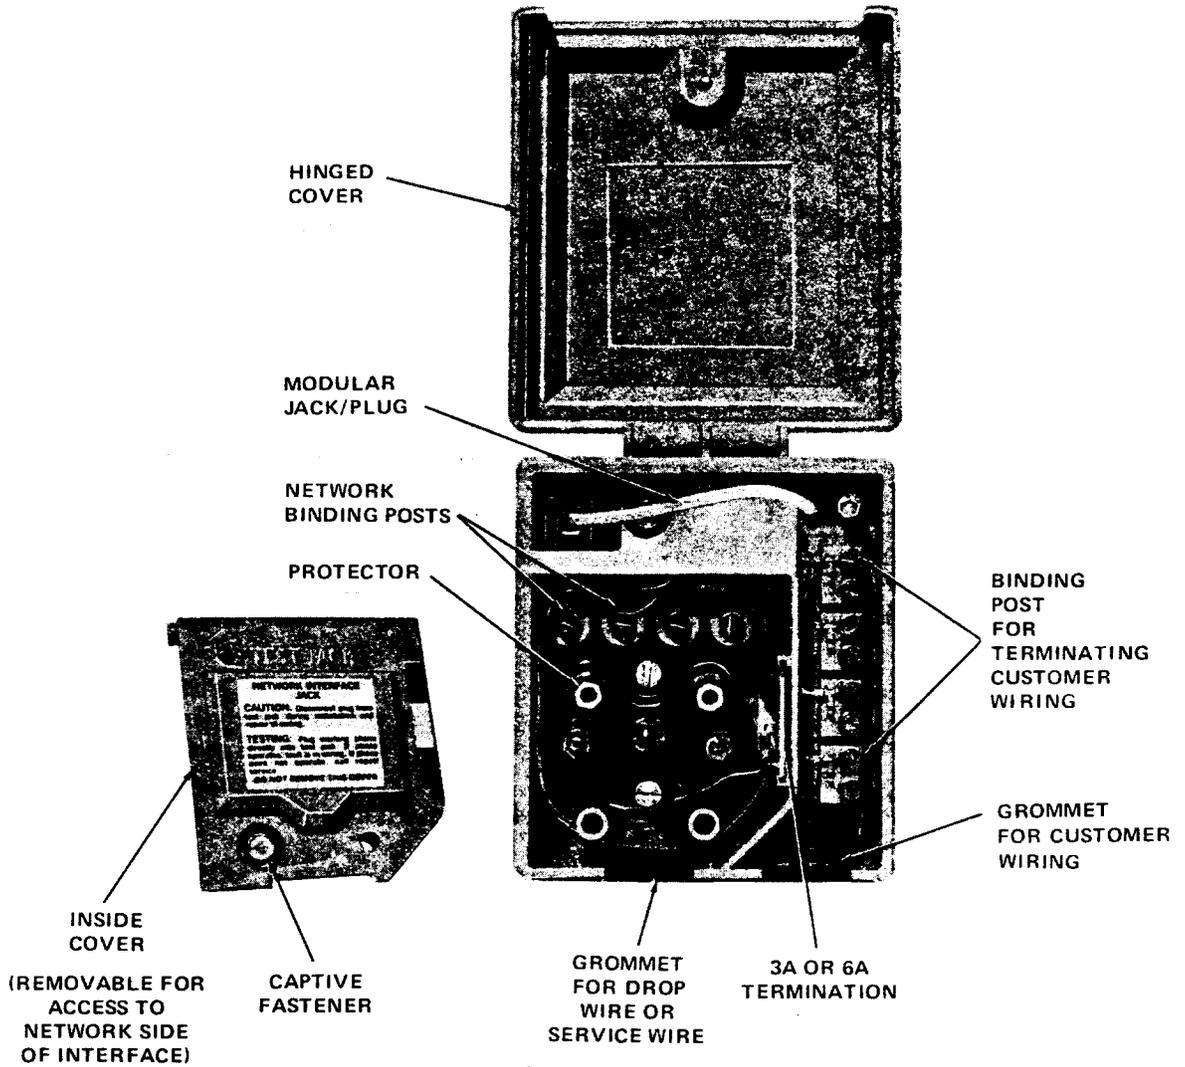

Fig. 1— 100-Type Network Interface Unit
2.01 The 100-type NIUs (Fig. 1) consist of a housing with a hinged cover, a modular plug and jack, binding posts for termination of subscriber wiring, and grommets for entry of drop wire or service wire and subscriber wiring. The NIUs are available with optional features by code as indicated in Table A.